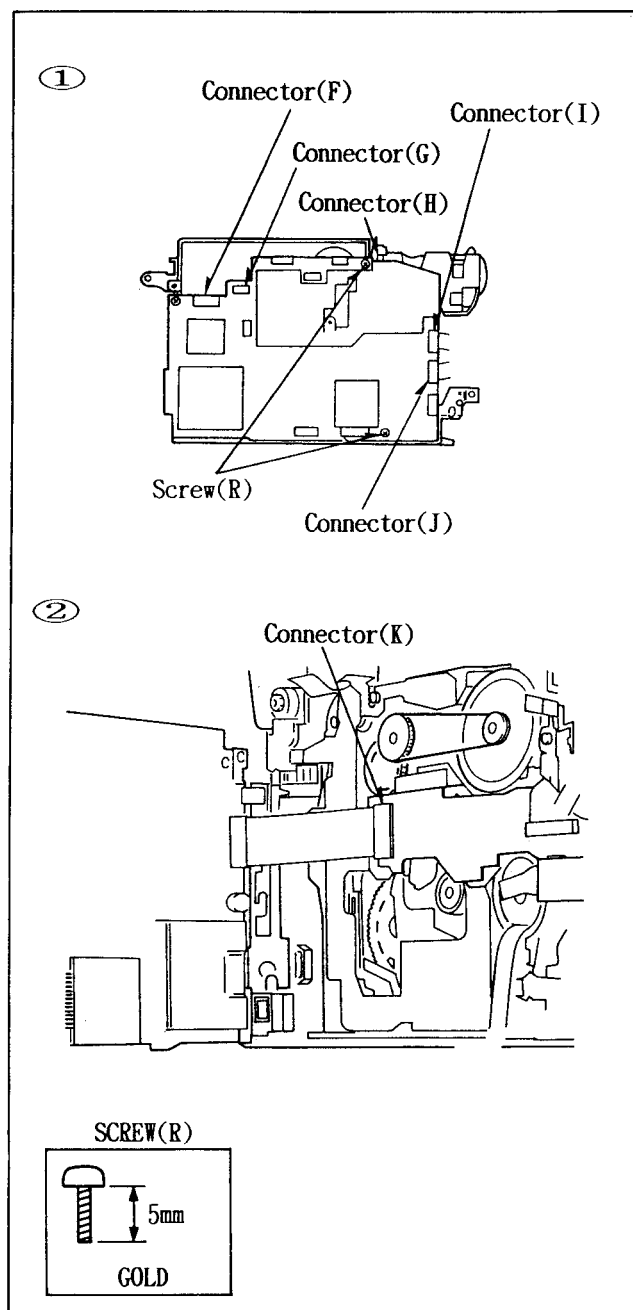

Fig. D7
(See Fig. D7 ①)
- (1). Remove.....2 Screws(R)
- (2). Connector....Connector(F), (G), (H), (I)and (J).
- (See Fig. D7 ②)
- (3). Connector....Connector(K).